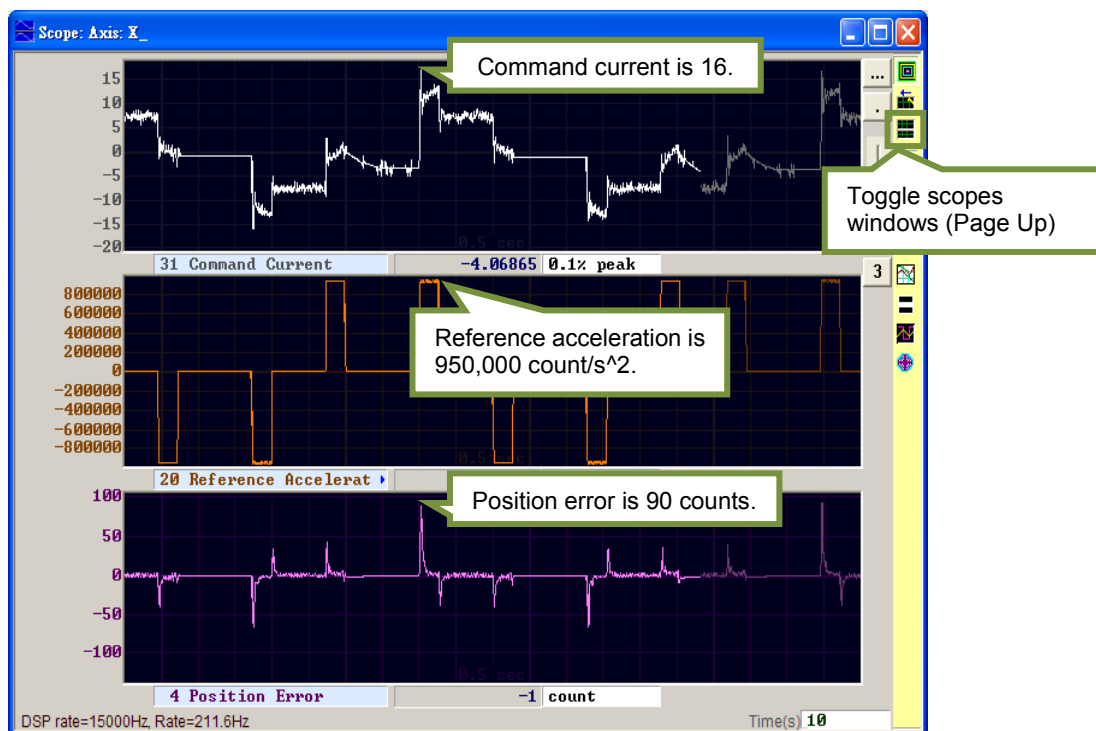

Figure 6.6.2.2 The motion trajectory of the motor
Step 5: Record the maximum reference acceleration during acceleration. In figure 6.6.2.2, the maximum reference acceleration is 950,000 count/s^2.